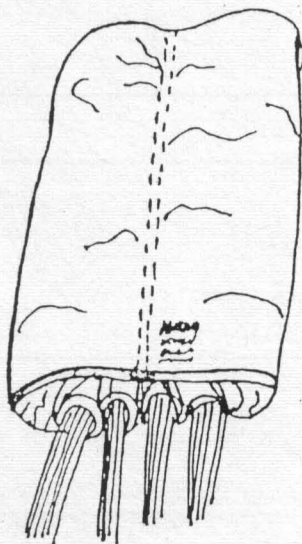

FIGURE 19
- 14) Grasp centre of tail and pull tail down over S-Fold canopy and slider. Make it level with spread grommets. Kneel on tail facing top of canopy. Wrap the outer edges of the tail around and under the canopy to form it into a flattened tube (see fig. 19) about 4cm wider than the free bag.
- 16) Still kneeling on tail lift canopy up by grasping the top. Make sure not to drop any. Get hold of nose of canopy and make sure to clear all the nose cells from under the folded outer edges. Count the cells to make sure they are all clear. Drop the canopy down again and dress it neatly so as to look like figure 19.